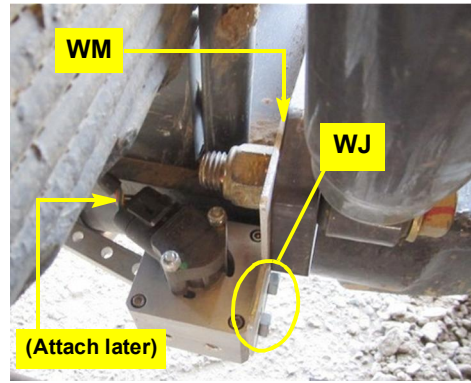

Figure 2a: WAS mounting bracket installed
- a. Mount WAS assembly bracket **WM** behind the right side shock absorber lower nut. Set the bracket with its two WAS assembly mounting holes downward and rearward (Figure 2a).
Using hardware **WJ**, mount the WAS assembly—arm downward and inward—on bracket **WM** (Figure 2a).
Figure 2a shows the WAS cable already connected. You will connect your cable later.
*Figures 2a to 2c show an Allen bolt holding the sensor bracket **SC**. Your machine may have a hex head bolt in this location (Figure 2a left inset).*
- a. Locate and loosen the bolt to the right of the tilt gas strut on the metal steering column frame (Figure 2a). Slide the prepared steering wheel switch bracket **SC** under the bolt's washer and tighten the bolt (Figure 2a insets). Adjust the bend and twist so that the switch hole aligns with the steering shaft.
Figure 2a with inset: Installed switch bracket